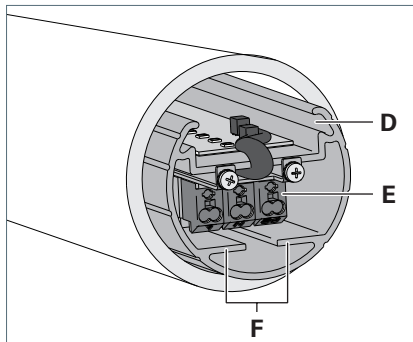

Fig. 9: Mounting profile and terminal.
- ▶ Pull the mounting profile **D** somewhat out of the luminaire, see Fig. 9.